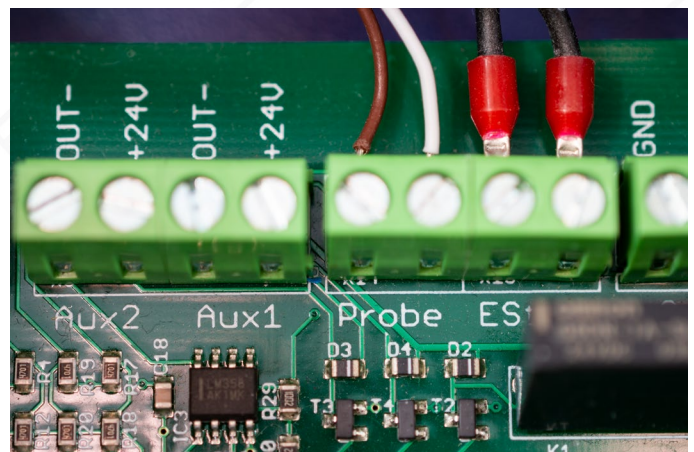

Fig. 15: Connection of the tool length sensor, here with brown and white wire.
- Connect the tool length sensor cable as shown in Fig. 15.